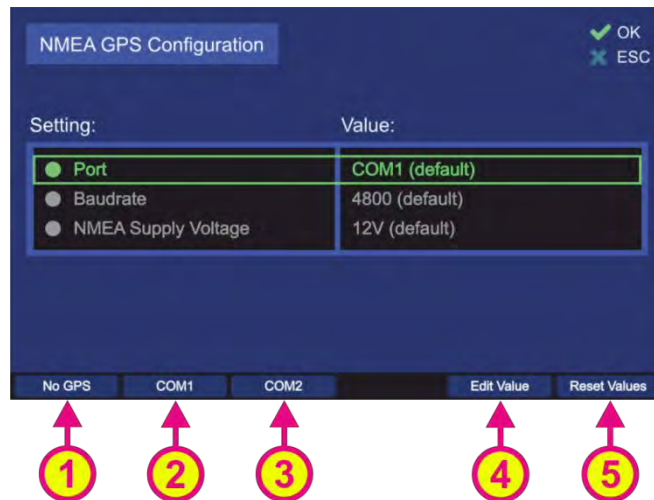
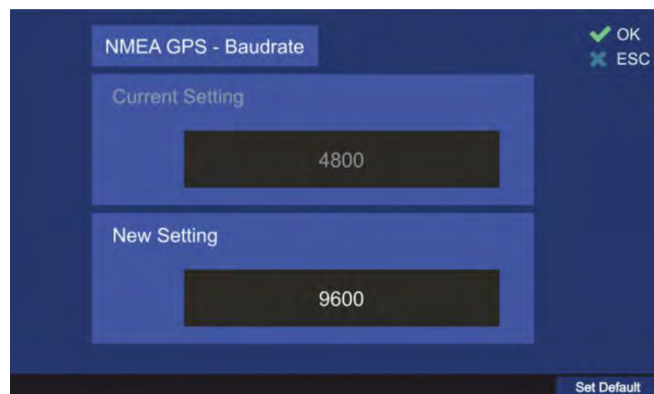

Figure 120. NMEA GPS configuration settings
Figure 122. Changing the NMEA GPS baud rate setting
- Press the button “OK” or hotkey “Edit Value”, while the setting “NMEA GPS” is marked (s. Figure 108). Following sub-menu will appear (s. Figure 120).
- Pressing the hotkey “Reset Values” (s. Figure 120, position 5) will set all menu items to default values.
- To change the baud rate, press the hotkey “Edit Value” while the menu item “Baudrate” is marked (s. Figure 120). The corresponding sub-dialog will be opened (s. Figure 122).